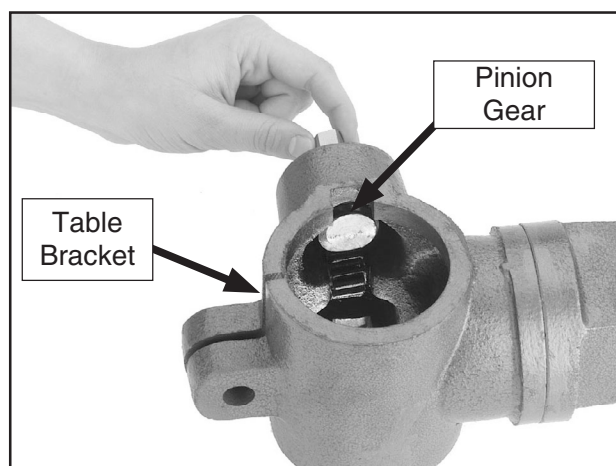

Figure 8. Pinion gear position.
1. Check to make sure the pinion gear is fully inserted into the hole on the side of the table bracket shown in **Figure 8**.